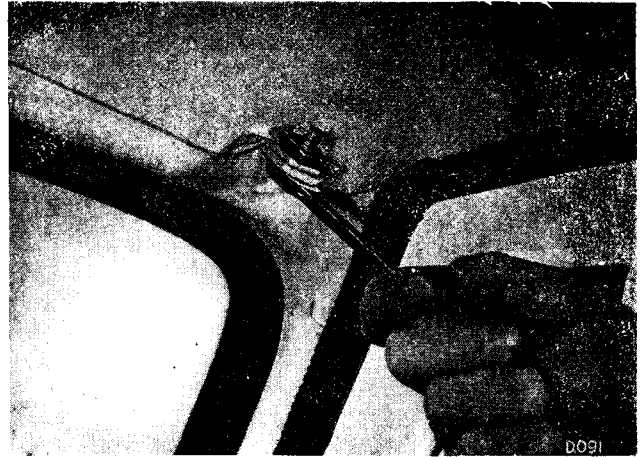

Fig. 20. Releasing roof header rail fixing
Isolate the battery and remove the sun visors. Take out two bolts securing the roof panel to the header rail (Fig. 20). Remove the draught welt from both door apertures. Remove the quarter lights and the backlight, page 5-229V. Detach the trim from the centre pillar. Disconnect the roof lamp (purple and purple with white cables) at the snap connectors located adjacent to the upper forward edge of the fuel tank in the luggage compartment.
5. Apply Seelastik to the contact faces and assemble a small rubber block over each of the three studs on the rear of the roof. Place the roof in position and secure it to the header rail by refitting the two outer bolts (Fig. 20).